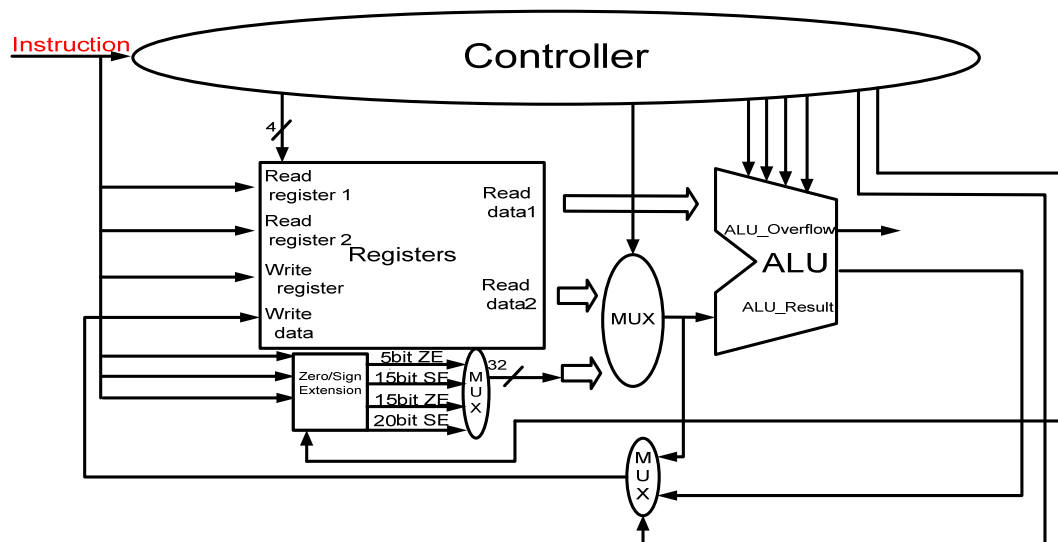
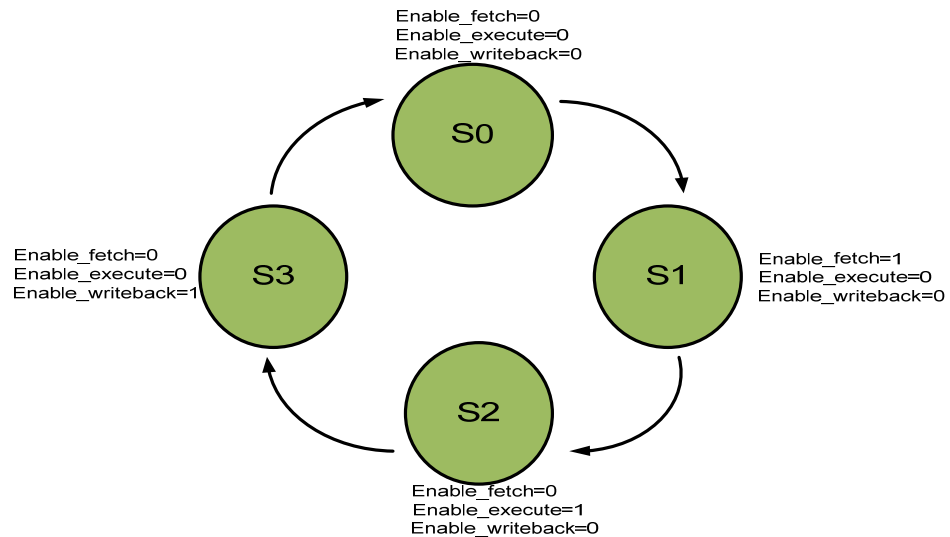

Fig. 6 Block diagram of a controller
Fig. 7 State Diagram of the controller
4. (40/100) Design a controller unit that is able to decode an input instruction as shown in Fig. 6 and control the datapath unit designed in Problem 3 to carry out the designated operation. A reference state diagram is attached in Fig. 7 for your reference. Develop a testbench that includes the instructions with the format as shown in Fig. 8 and verify the overall system (controller + ALU + register file). You MUST follow the module specifications in Table. 2.
Its state diagram of the controller is as shown in Fig. 6.
- Write a testbench that includes the instructions with the format as shown in Fig. 7 and verify your code. Show your snapshot of waveform for different cases in your reports and illustrate the correctness of your results.